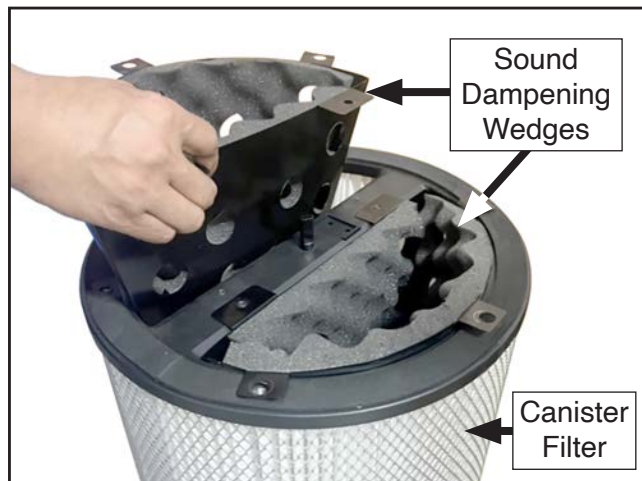

Figure 65. Removing sound dampening wedges.
9. Remove sound dampening wedges from old canister filter (see **Figure 65**), then place sound dampening wedges in replacement canister filter.